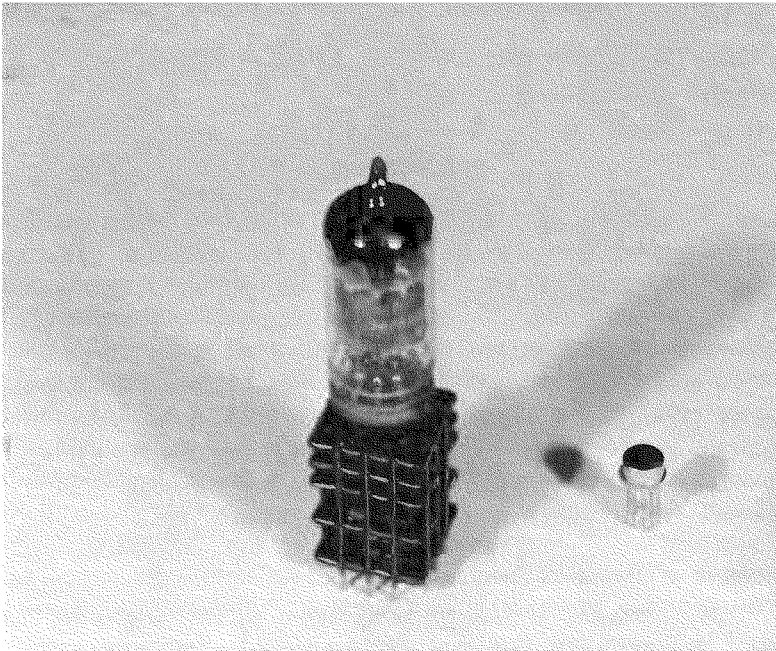
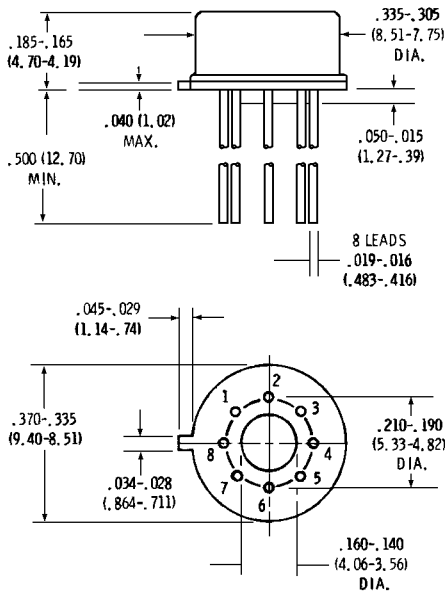
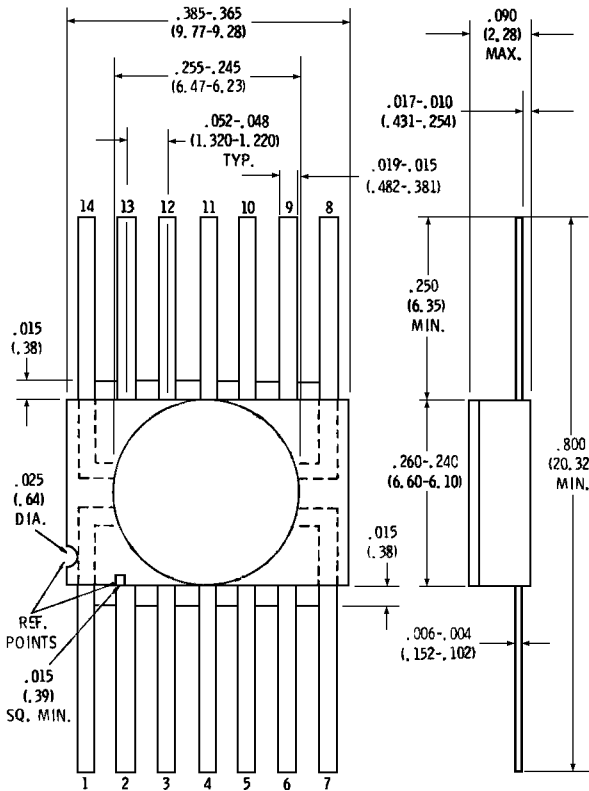

Fig. 1-1. Ten years of progress—a module and an integrated circuit.
Fig. 1-10. TO-5 8-lead package.
Fig. 1-14. 14-lead ceramic-to-metal flat package
All conventional modules employ discrete components; that is, they have definite resistors, capacitors, and coils. The first modules employed tubes and hand wiring; later ones used tubes and printed circuits. For example, the left unit in Fig. 1-1 is a tube-type, printed-circuit audio amplifier module employing "tinkertoy"-type construction. It uses a dual-triode tube, four resistors, and two capacitors. Still later modules employed transistors and hand wiring and, most recently, transistors and printed circuits.
The integrated circuit (IC) carries size reduction of the module into the realm of microminiaturization. Its dramatic achievement is easily shown: The unit at the right in Fig. 1-1 is an integrated circuit housed in a TO-5 transistor can (0.37-inch diameter, 0.18-inch height, 12 leads); but, in spite of its tininess, it contains 6 transistors, 2 diodes, 17 resistors, and all of the "wiring" between these components, which forms the internal circuit. Thus, in only 0.37 percent of the volume of the module on the left, the IC provides a circuit containing a great many more components.
ages of these six types). In the back row are three IC's housed in the transistor-type metal can mentioned earlier (at rear left is a 12-lead IC, at rear center is a 10-lead one, and at rear right is an 8-lead one). At center left is a 14-lead dual in-line ceramic IC; at center right is a 14-lead dual in-line plastic one. In the front of the group is a 14-lead ceramic-to-metal flat package. Dimensions of these units are given in Figs. 1-10 to 1-15. Special miniature sockets or fixtures are available for inserting either of these IC's into a circuit; or the IC's may be soldered directly into a printed circuit or wired circuit.
Integrated circuits are supplied in several types of small packages (see, for example, Figs. 1-1, 1-2, 1-3, and 1-8). The shapes and dimensions of common packages are given in Figs. 1-10 to 1-15.
In Figs. 1-10 to 1-15, dimensions are given in inches (dimensions in millimeters are shown in parentheses). The terminal arrangements and numbering are shown in bottom views of the IC's, except that Figs. 1-14 and 1-15 are top views.